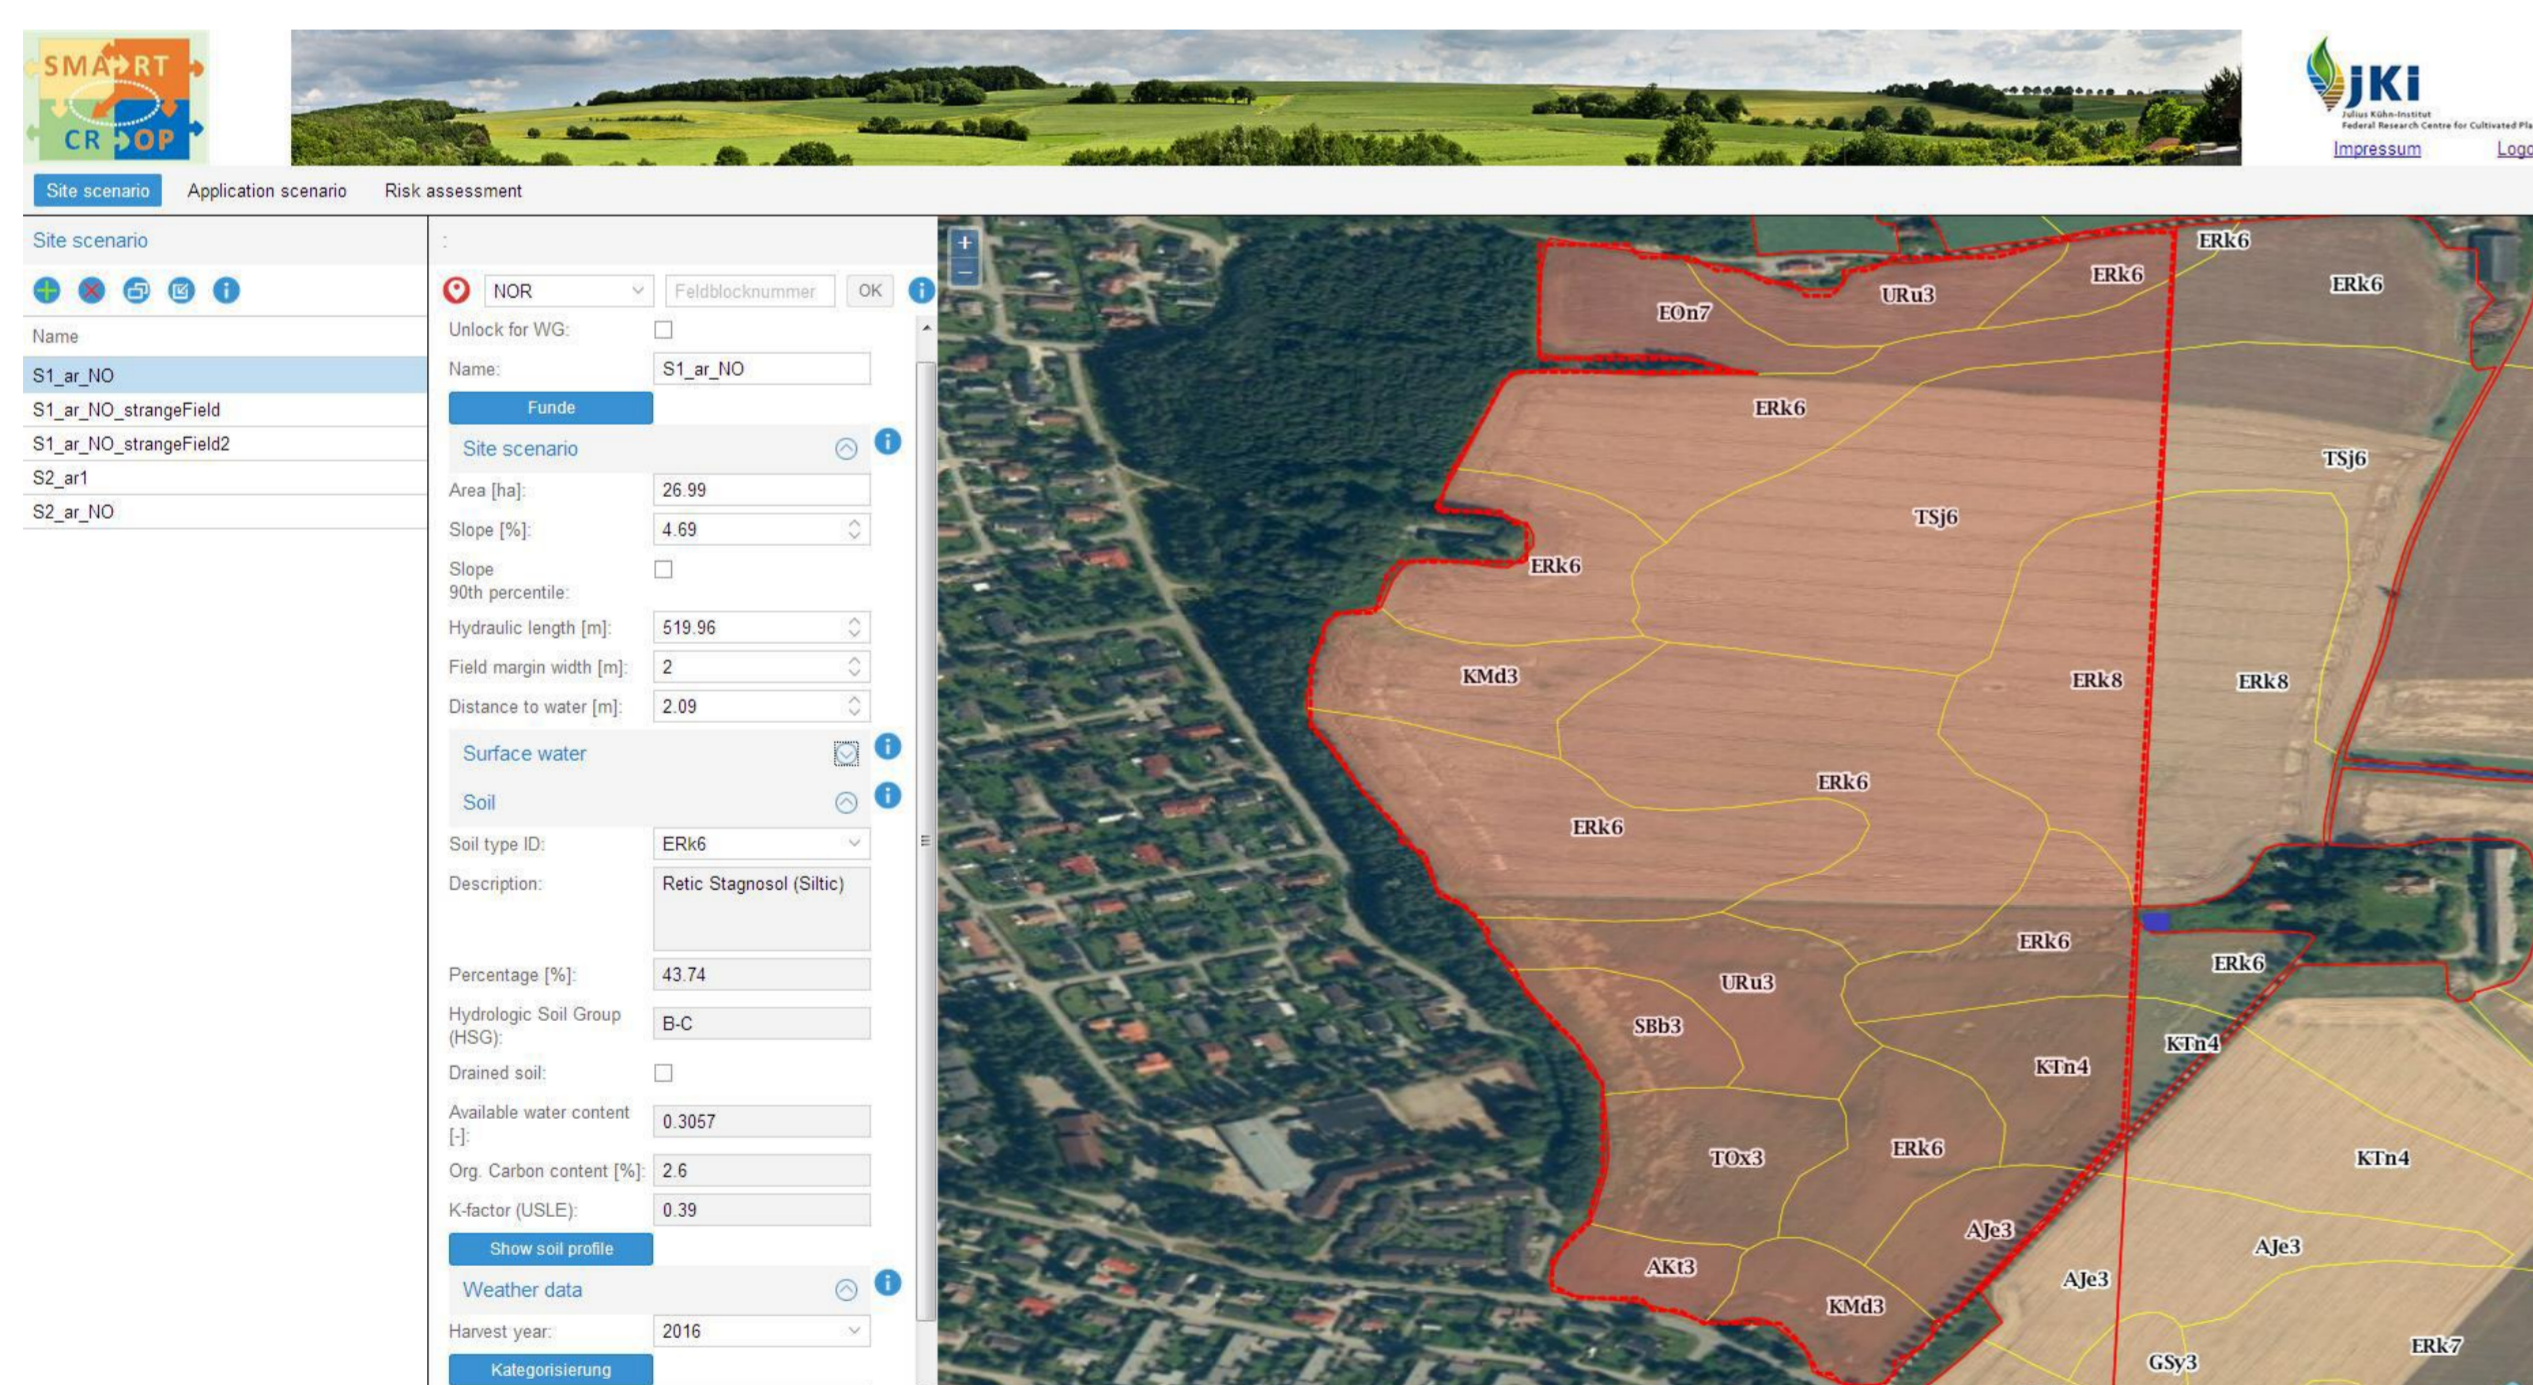

Fig. 1: Site scenario interface: with topographic, soil and weather parameters
- The field scenario is selected as follows (Fig. 1):